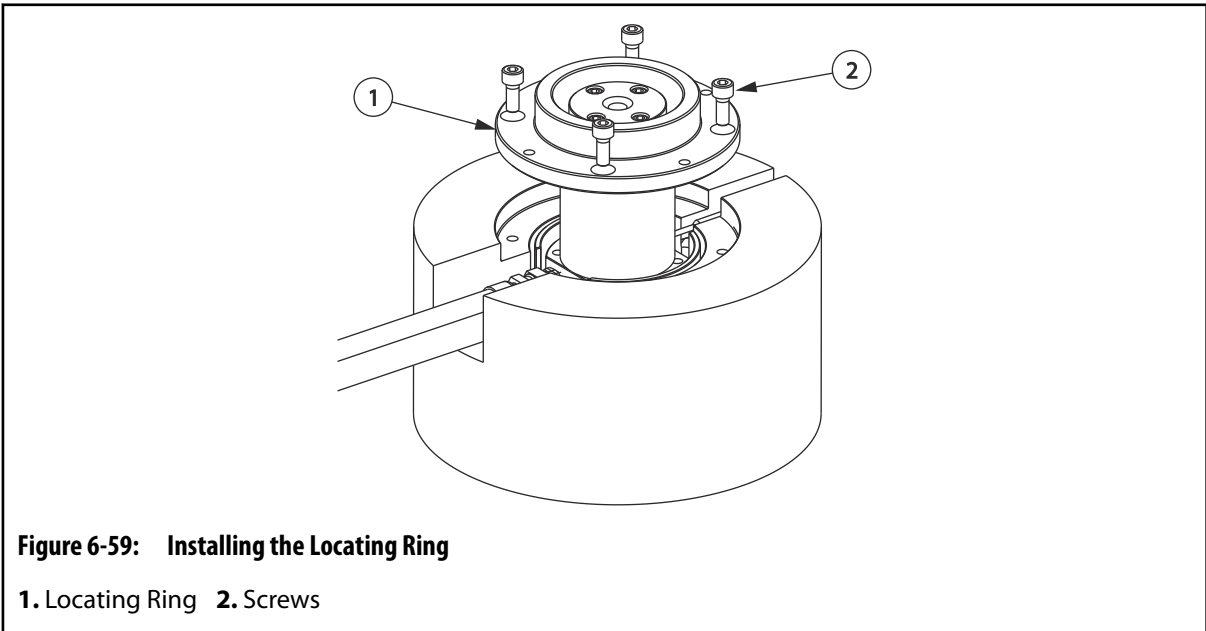

Figure 6-59: Installing the Locating Ring
8. Place the locating ring over the assembly, making sure the slot in the locating ring seat is aligned with the hard wire on the sprue body heater. Refer to Figure 6-59.